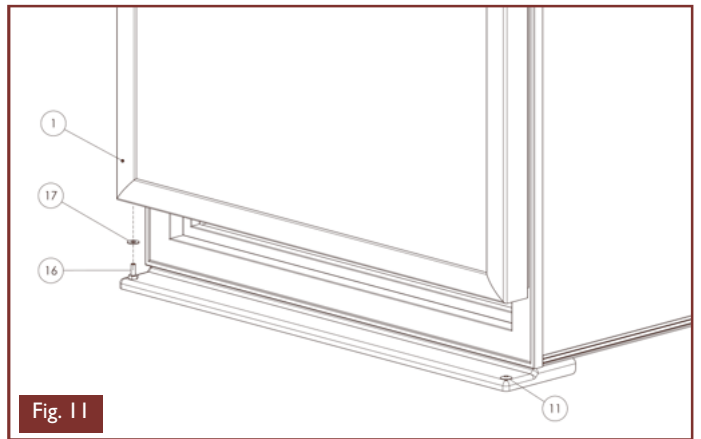

Fig. 11
- Replace the door (1) on its pivot guide (16), not forgetting the washer (17), see Fig.11